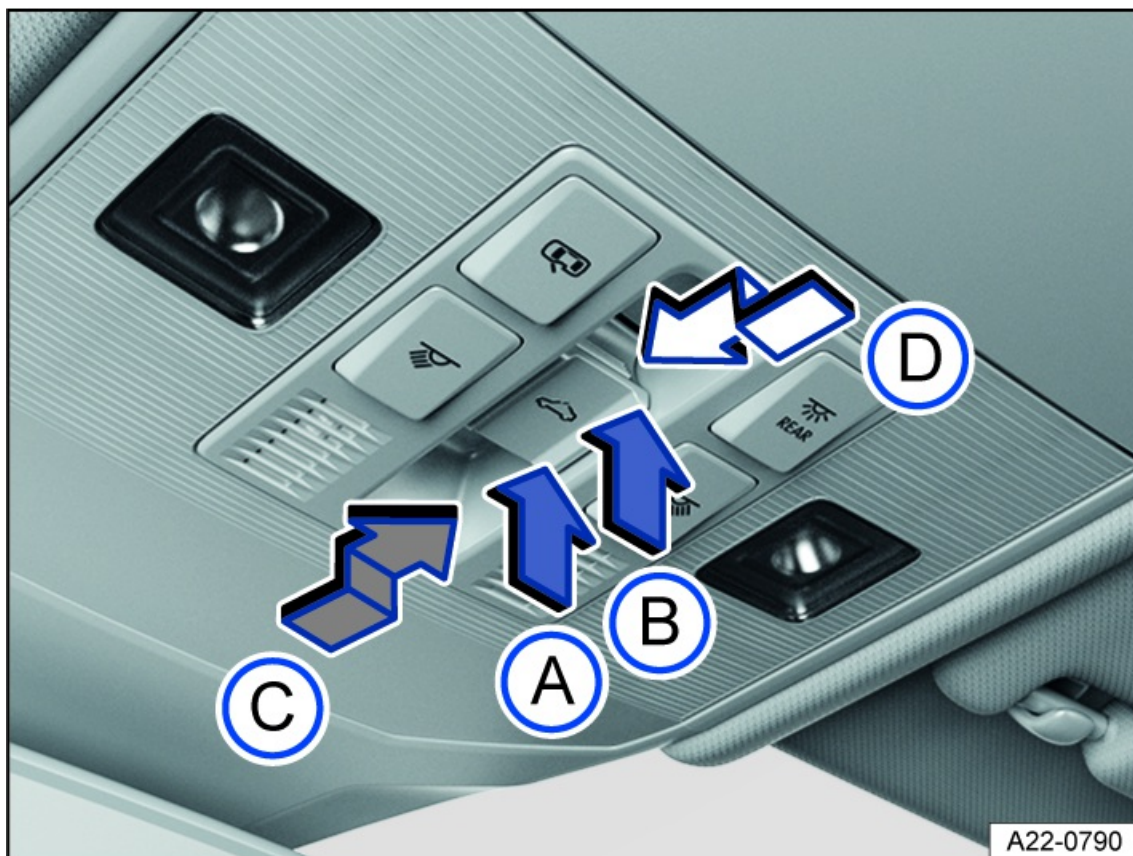

Fig. 63 In the headliner: sunroof button.
- Manual process: press the fig. 63 button until the first level is reached.
- Automatic process: press the fig. 63 button until the second level is reached.
- Automatic process up to comfort position: press the fig. 63 button until the second level is reached.
- Automatic process: press the *fig. 63* button until the second level is reached.
1. Press the *fig. 63* or *fig. 63* button again.